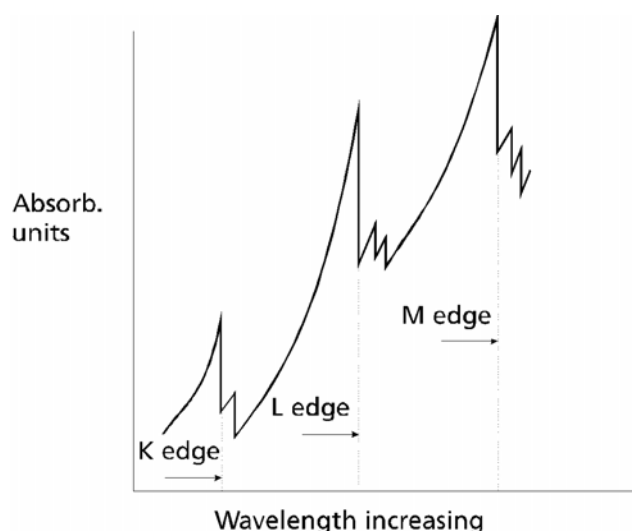

Fig. 13-4 Diagrammatic representation of absorption edges
2. The value of the mass absorption coefficient changes with wavelength, and a plot of the variation between absorption and wavelength shows maxima followed by a sharp drop – the absorption edge. Fig. 13-4 shows this effect.